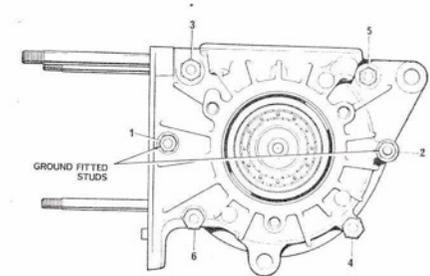

Fig. 12 Crankcase mating studs showing order of tightening. (Ground studs are arrowed.)
- 1 Using a socket or box wrench remove one nut from each crankcase stud. Remove the studs (the ground studs indicated in Fig. 12 will need to be tapped out with a soft drift.)